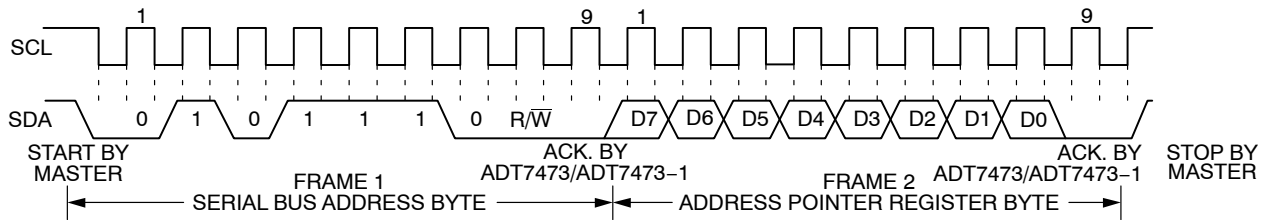

Figure 18. Writing to the Address Pointer Register Only
1. If the ADT7473/ADT7473-1's address pointer register value is unknown or not the desired value, it must first be set to the correct value before data can be read from the desired data register. This is done by performing a write to the ADT7473/ADT7473-1, but only the data byte containing the register address is sent, because no data is written to the register. This is shown in Figure 18.